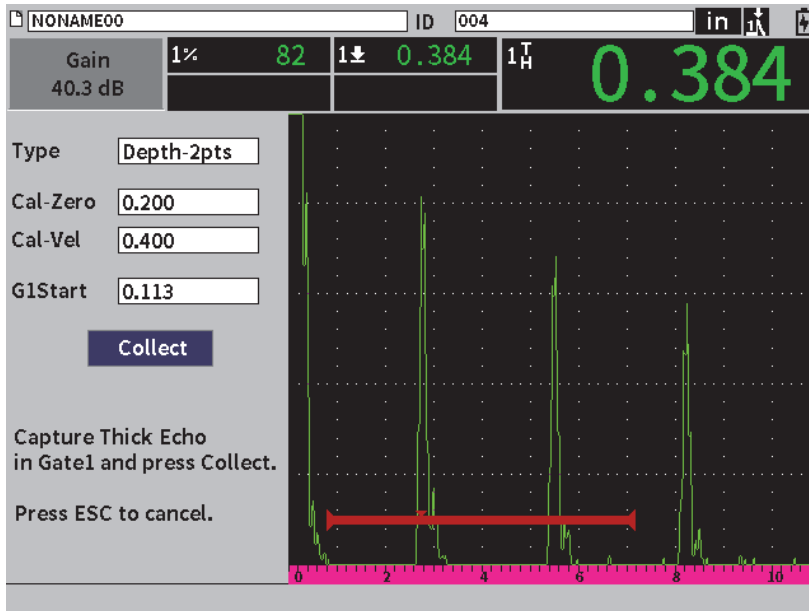

Figure 8-6 Calibration — Ready to collect thick echo
9. Press the Tab key to highlight the **Collect** button, and then press the Enter key to capture the thin echo (see Figure 8-6 on page 98).
12. Press the Tab key to highlight the **Collect** button (see Figure 8-6 on page 98).